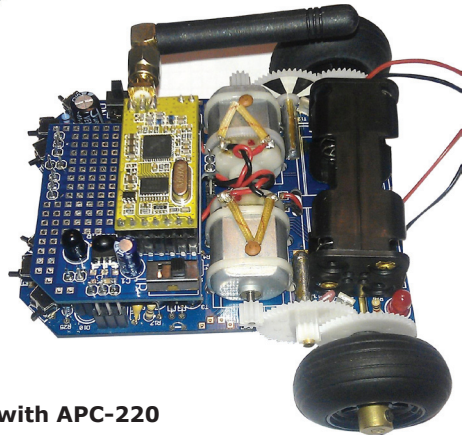

Fig. 9 : ASURO with APC-220
1. Unsolder the components at the locations marked in red and remove them from the PCB (fig. 9). Use a specific soldering iron or special unsoldering tin to unsolder the components.